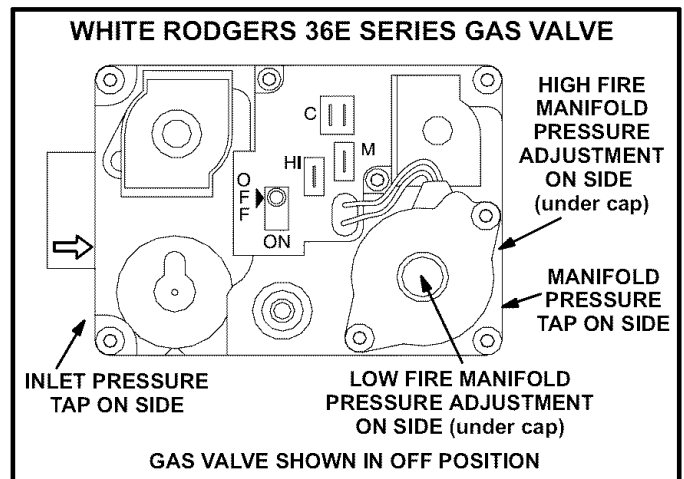

FIGURE 26
#### Gas Valve Operation (Figures 26 and 27)
- 6 - *White Rodgers 36E Gas Valve* - Switch gas valve lever to **OFF**. See figure 26.
- 8 - *White Rodgers 36E Gas Valve* - Switch gas valve lever to **ON**. See figure 26.
- 2 - After the line pressure has been checked and adjusted, check the low fire and high fire manifold pressures. See figures 26 and 27 for the location of the manifold pressure adjustment screws. Low and high fire manifold pressures are given in table 29. A natural gas to LP/propane gas changeover kit is required to convert the unit.